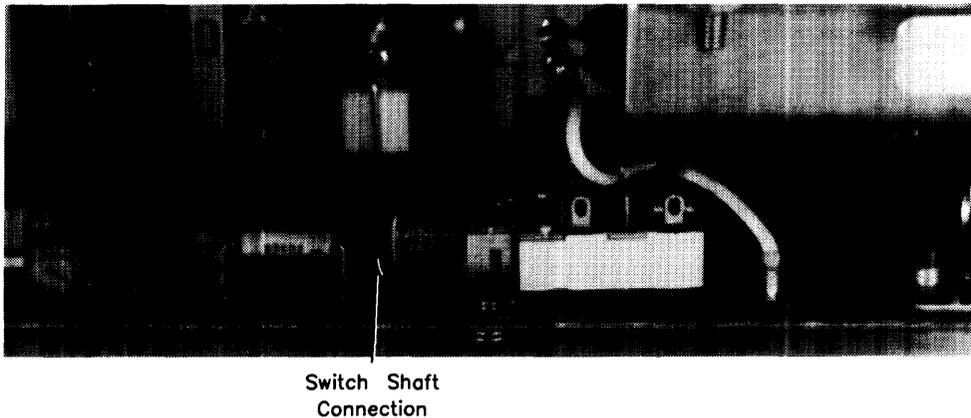

Figure 2-8. ON-OFF Switch Shaft Connection.
6. Remove the switch shaft from the ON-OFF switch by gently pulling the switch shaft off the switch. Refer to Figure 2-8.